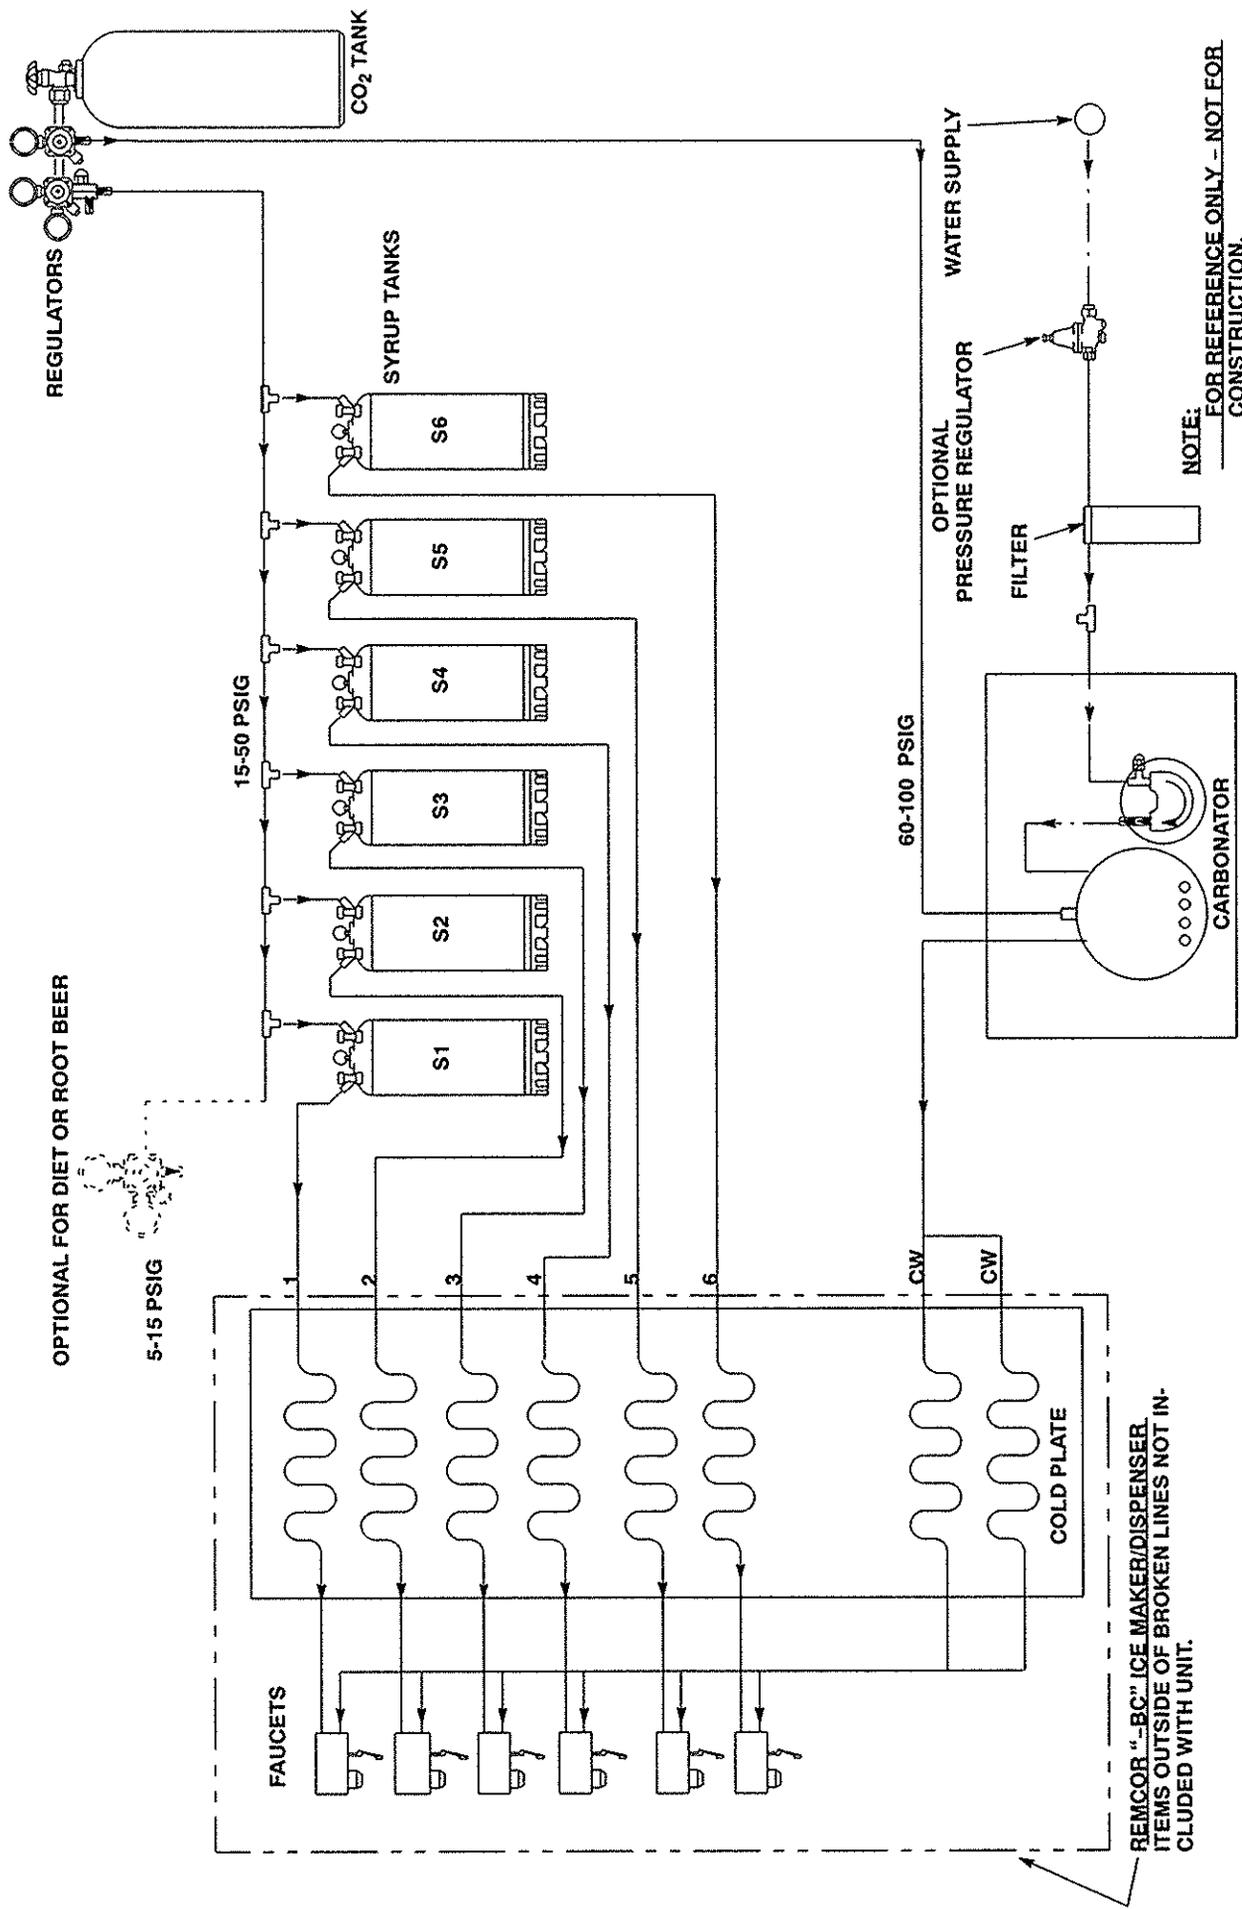

FIGURE 5. BEVERAGE SYSTEM SCHEMATIC "BC" MODELS
3. Connect the beverage system product lines as indicated in Figure 5. This work should be done by a qualified service person. Note that the hoses are marked with numbers 1 through 6 for syrup connection and "CW" for carbonated water connection.